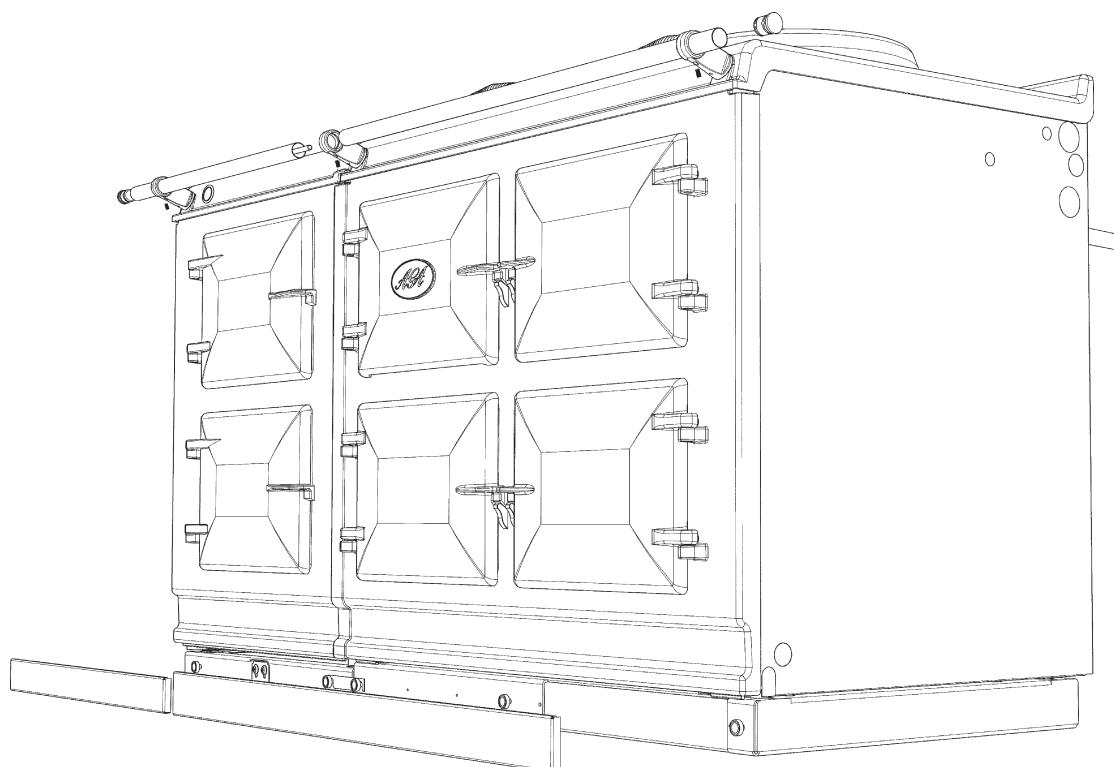

Fig. 31.12
11. On 5 oven appliances, fit 'allthread' stud into the threaded end of the handrail, then feed the handrail through the bracket (ensuring that the allthread stud is protruding from the right hand side of the hotcupboard handrail) and screw the handrails together. (Fig. 31.12).
(Fig. 31.12)